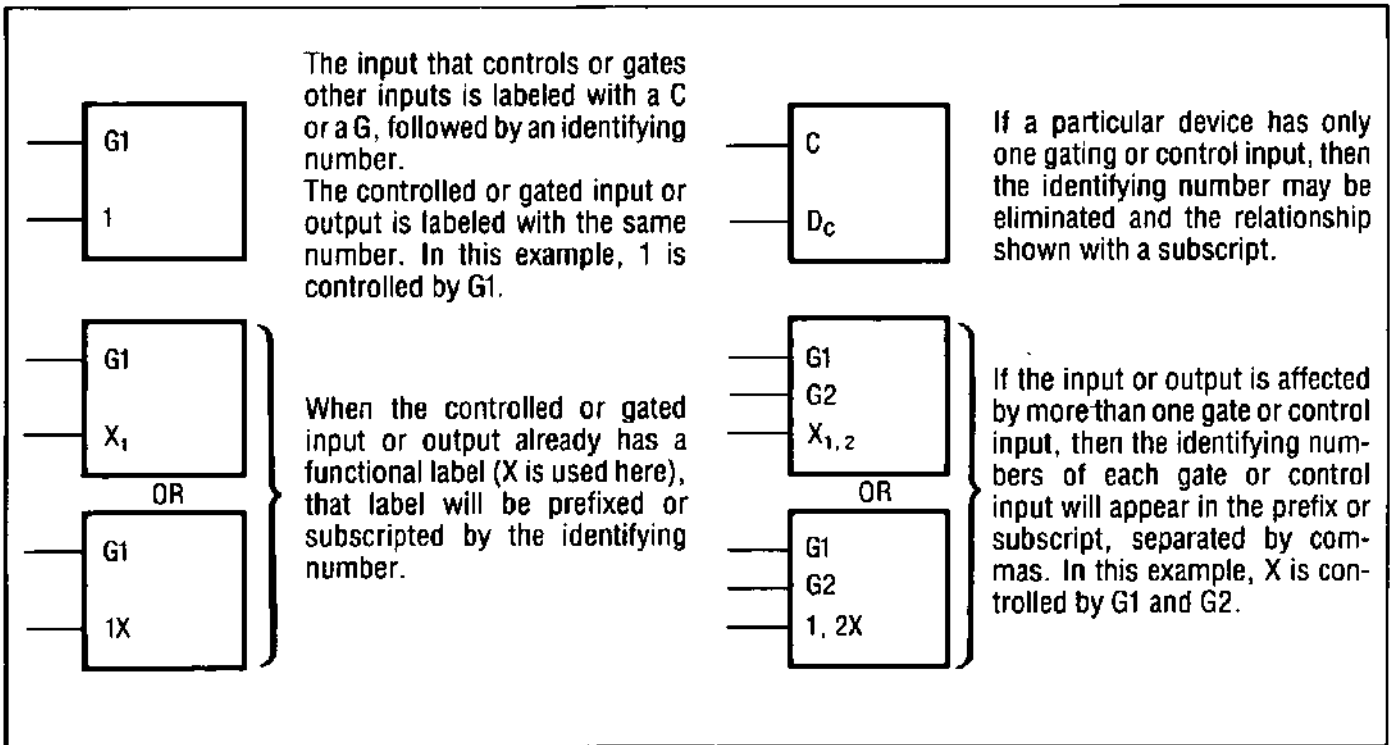

Figure 8-8. AND Dependency Notation
**Dependency Notation.** Dependency notation simplifies symbols for complex integrated circuit elements by defining the relationship between inputs and outputs without actually showing all the elements and connections involved (see Figures 8-8 through 8-10). The following examples use the letter A for address, C for control, G for AND, V for OR, and F for free dependencies. The dependent input or output is labeled with a number that is either prefixed (e.g., 1X) or subscripted (e.g., X1). They both mean the same thing. Note that many times a controlled line may already be labeled with a number that indicates input or output weighting (for example, in a coder). In this case, the controlling or gating input will be labeled with a letter.